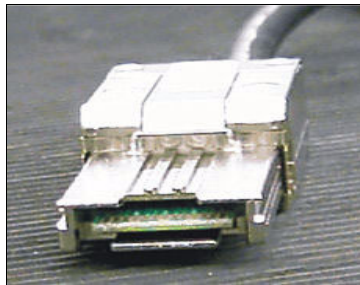

Figure 2-15 Mini-SAS (SFF-8088) connector
- ▶ Mini-SAS (SFF-8088), as shown in Figure 2-15